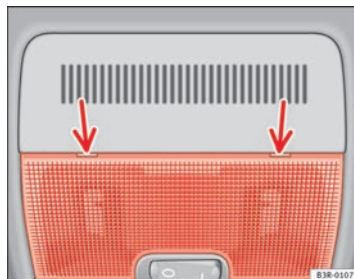

Fig. 82 Details of headliner: Points for applying screwdriver
- Carefully insert the flat end of a screwdriver (from the car's tool kit) at the rear of the glass cover on the interior light ⇒ page 113, fig. 82.